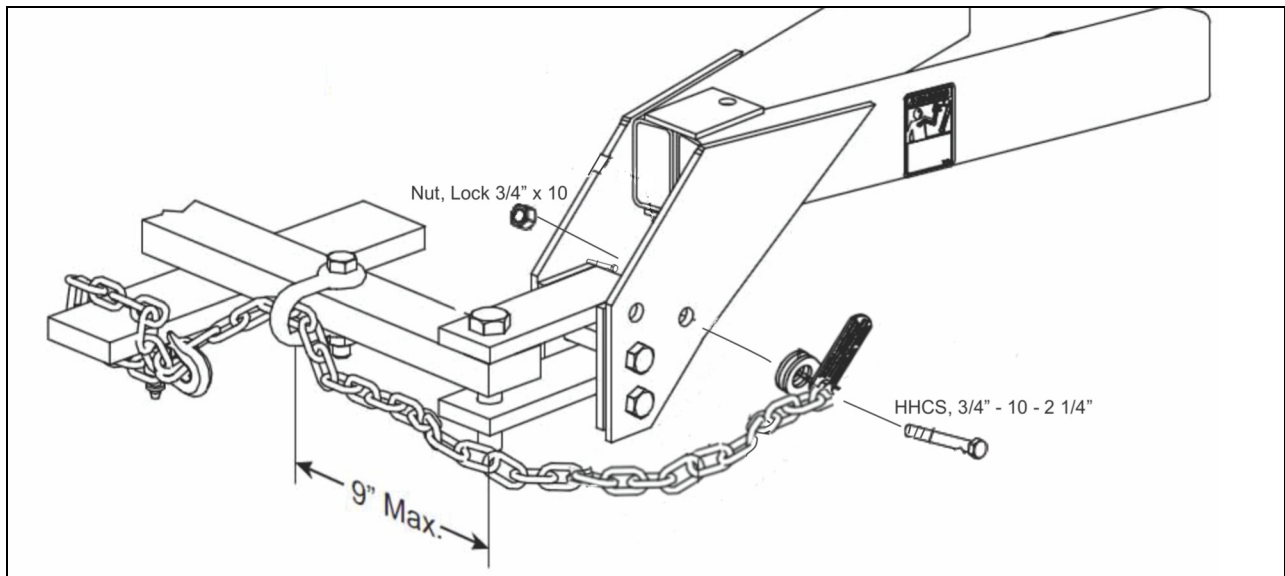

Figure 2-14: Safety Chain Hitch Assembly
1. Attach the hitch for positioning so that the safety chain can be properly attached, and then attach drawbar to a suitable tractor. See Figure 2-14.